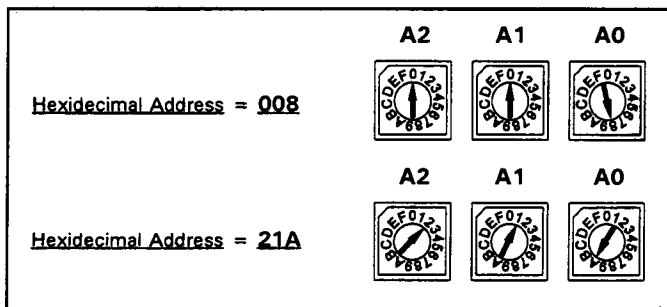

Figure 6a IMPACC Address Switch Examples
4) Set the address selector switches (see figure 6a). Each I-PONI installed in any one network must have a unique address. The three hexadecimal selector switches offer 4096 different addresses (16X16X16), ranging from 001 to FFE. A2 is the most significant and A0 is the least significant Hex address digit. Records of addresses should be maintained in terms of the hexadecimal number along with the connected product and the baud rate of the I-PONI.
The IMPACC Network reads the address settings in hexadecimal notation as shown above (figure 6a). Therefore the address can be read directly off of the I-PONI dials from left to right.